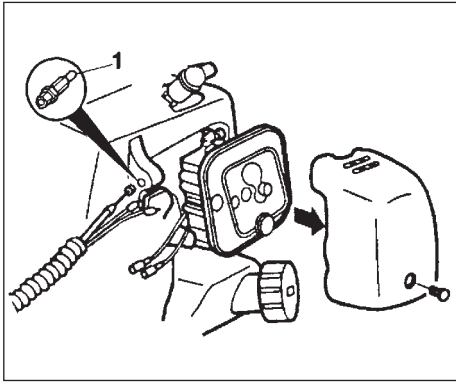

Fig. 1-4
Remove air cleaner cover. (Fig. 1-4)
Set outer-receiver (1) (if so provided) into wire guide and put throttle wire through the outer-receiver. (Fig.1-4)